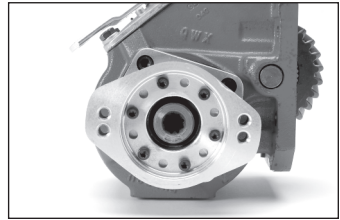

Fig. 6
10. Next install the pump flange as shown in Fig. 6. With the P.T.O. on the workbench, shifter cover facing towards you and the belly of the P.T.O. down, the flange shown should be towards your right. Orient the pump flange to the 3:30 – 9:30 position. Install the 6 socket head capscrews (378446-4) and torque to 8-12 lbs. ft. [11-16 N.m].